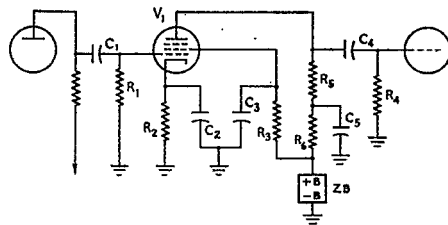

Fig. 5 — Amplifier stage with low-frequency correction.
Of the four places or networks where low-frequency distortion may be introduced, two, R_3C_3 and Z_b , can be made negligible by proper design. In addition to making negligible the internal impedance of the power supply, correction may be made for either R_1C_1 or R_4C_4 by the addition of an RC filter, C_5R_5 in Fig. 5.
To correct for R_1C_1 or R_4C_4 , the procedure is as follows. The grid resistor (R_1 or R_4) is made as high as permissible; 500,000 ohms is a convenient value. A nominal value, such as 0.1 $\mu\text{fd.}$, is chosen for the coupling condenser, C_1 or C_4 . It is desirable to keep this value large, but not so large that trouble may be encountered from leakage and "hang-over" effects. The time constant of the grid resistor-condenser network, R_1C_1 or R_4C_4 , then is made equal to the time constant of R_5C_5 , and R_5 made greater than 20 times the reactance of C_5 at the lowest desired frequency. For example, if, in Fig. 5, R_4 is 500,000 ohms, C_4 is 0.1 $\mu\text{fd.}$ and R_5 is 1000 ohms, and correction to 30 cycles is to be made, the time constant of R_4C_4 will be 0.05 seconds or 50,000 microseconds. Leaving TC in microseconds will give an answer directly in microfarads.
If it is desired, C_5R_6 may be used to compensate for the frequency distortion of R_2C_2 instead of R_1C_1 . To see how this can be done, reference again is made to Fig. 5. It has been shown previously that the impedance in the cathode circuit varies with frequency, and therefore the a.c. voltage developed across this impedance, according to Ohm's Law, will be
where A is the stage gain, as defined in equation (6) for pentodes and equation (11) (which follows) for triodes. For example, if values are assigned in Fig. 5 such as 200 ohms to R_2 , a nominal value of 100 μ f. to C_2 and a stage gain of 10, and values for C_5 and R_6 are to be determined, then
explained, the only way of minimizing the effects of the coupling efficiency of R_1C_1 or R_4C_4 , Fig. 5, is by increasing the value of either the resistor or the condenser, or both. There are limits as to how far this can be carried, and generally the reactance of the coupling condenser cannot be kept low enough at the lowest frequency to give completely satisfactory results. So it is good practice generally to utilize C_5R_6 to compensate for R_1C_1 or R_4C_4 , and to use other means to minimize the effects of R_2C_2 , Fig. 5.